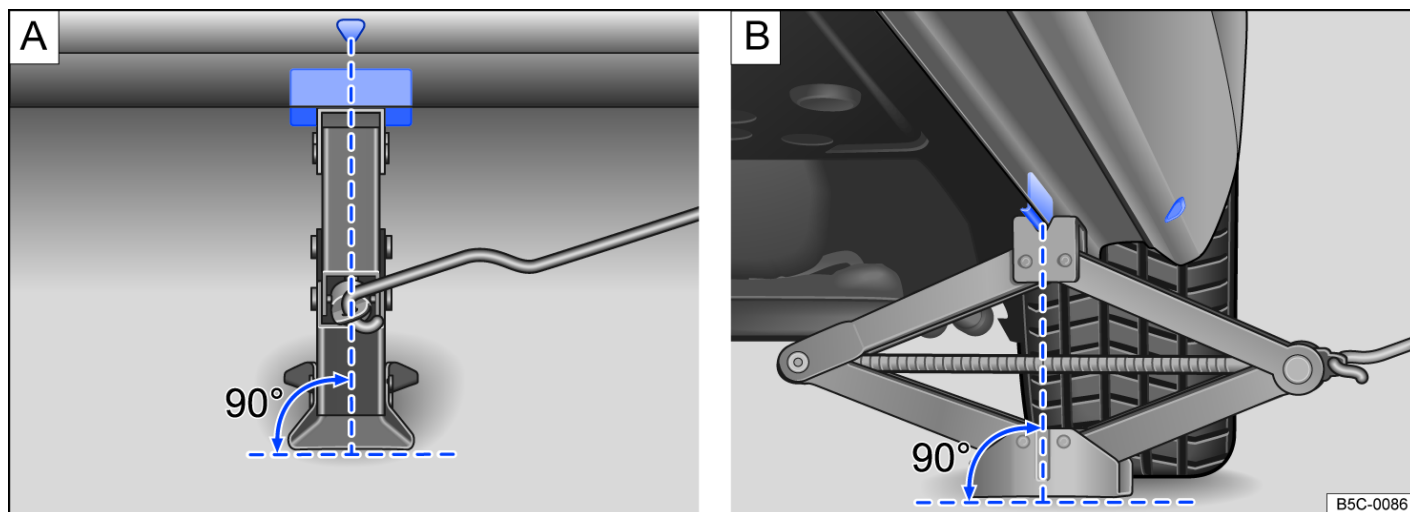

Fig. 2 Jack applied at the rear left-hand side of the vehicle.
9. Ensure that the entire surface of the foot of the jack is resting securely on the ground and that the foot of the jack is positioned vertically directly beneath the point of application → Fig. 2 **A** and **B**.
10. Position the jack and simultaneously continue to crank the claw up until it is in position around the jacking point underneath the vehicle → Fig. 2.
- Apply the jack only at the points described. The jack claw must grip the vertical rib under the side member securely → Fig. 2.